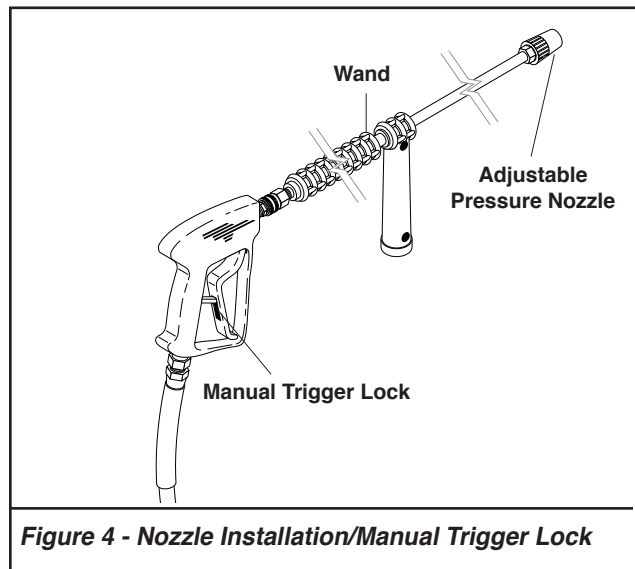

Figure 4 - Nozzle Installation/Manual Trigger Lock
1. Install adjustable pressure nozzle on end of the wand. See Figure 4.